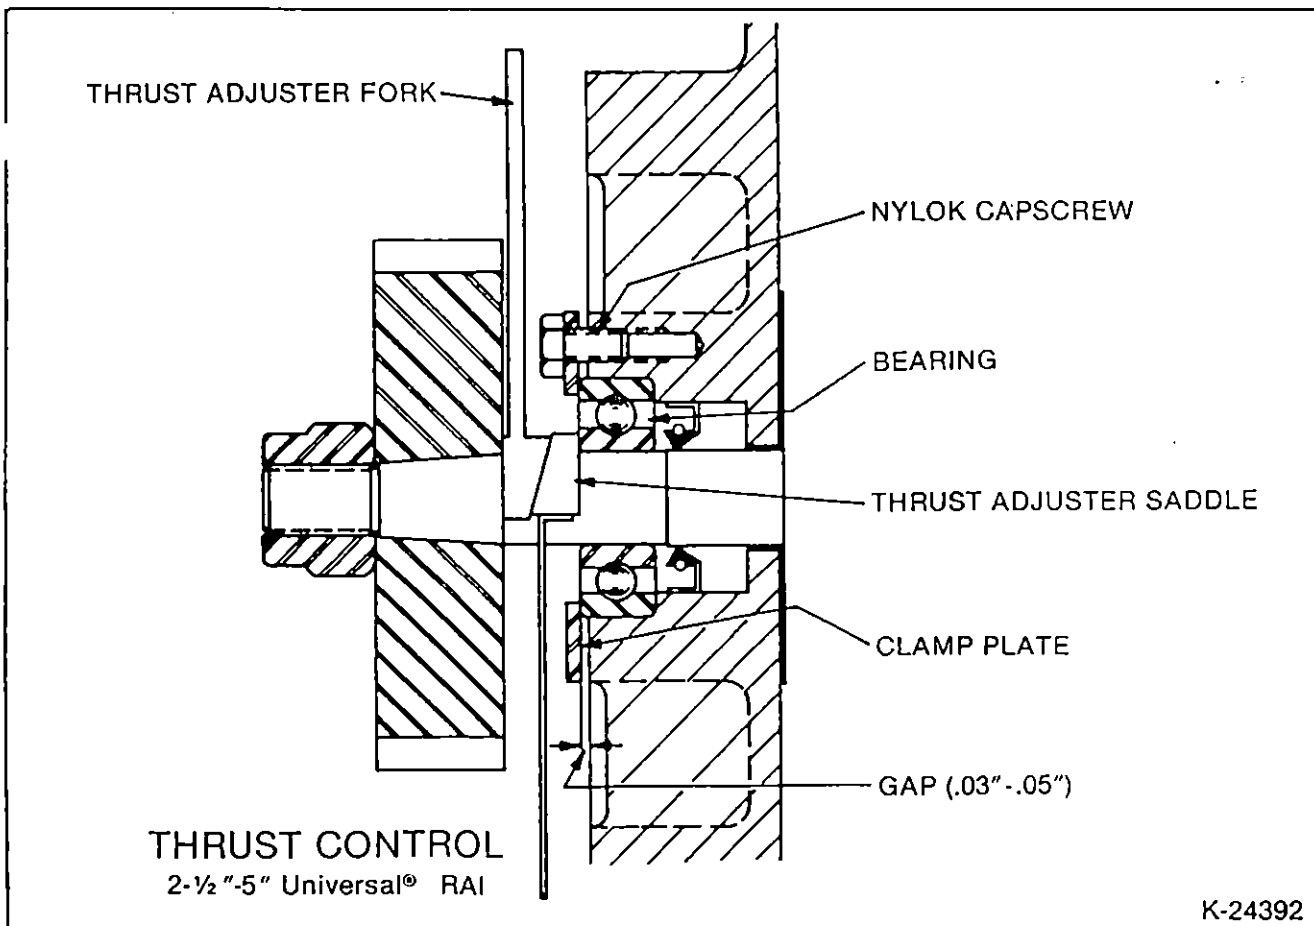
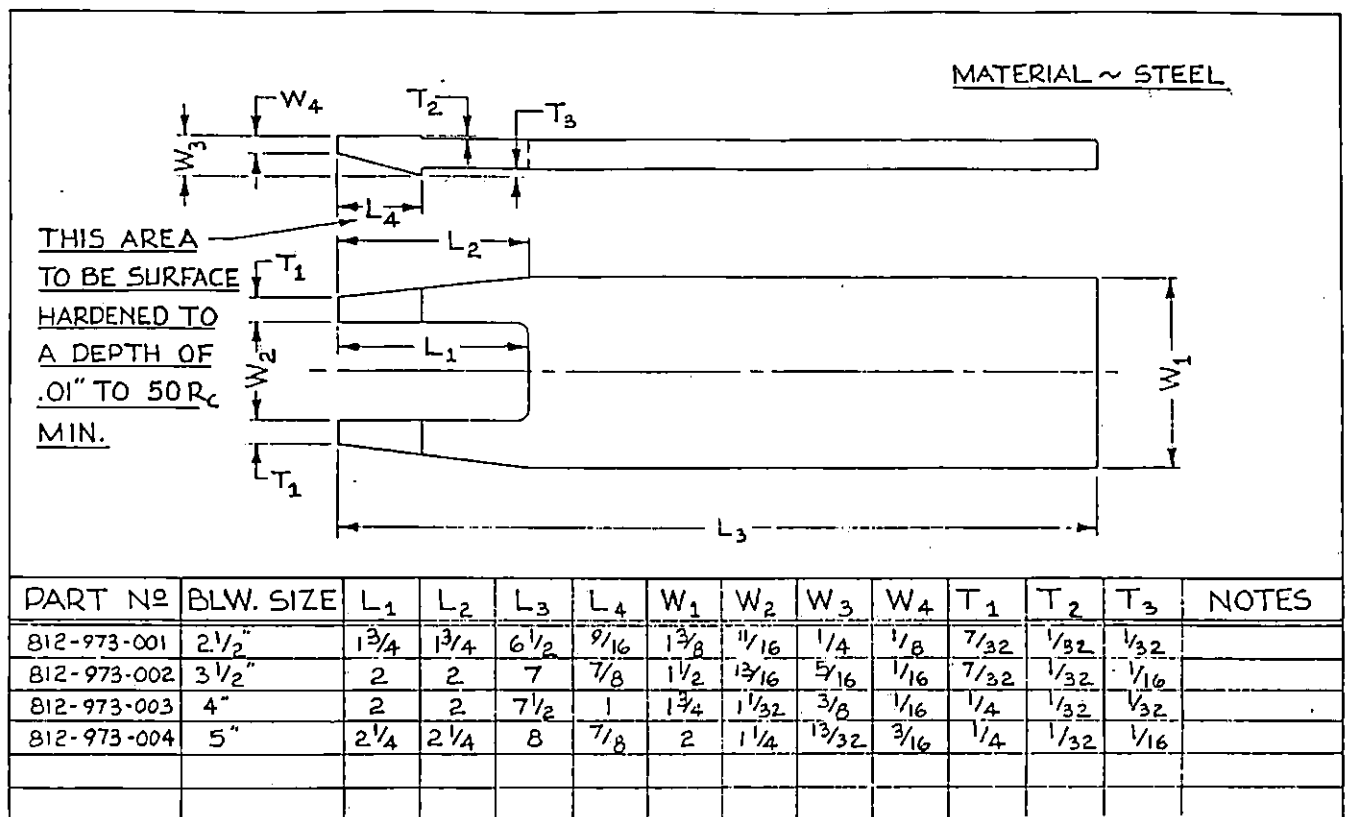

Figure 6 — Thrust Setting, 2 1/2"-5" UNIVERSAL RAI®
Figure 7 — Thrust Adjuster Fork
11. Place blower on its feet on a flat surface. Loosen feet capscrews (32) and square up unit. Re-tighten capscrews (32). Clamp unit down to a solid base for further assembly.
12. Oil the gear end bearing fits as described previously. Install 2½-5" UNIVERSAL RAI® gear end bearings flush with the headplate bearing shoulders using proper drivers. On 6" & 7" UNIVERSAL RAI®, install thrust washer (29) in bearing bores then install gear end bearings so that they protrude ⅛" (1.6mm) above headplate surface.
13. Install bearing clamp plates (34). On 6" & 7" UNIVERSAL RAI®, impeller end clearances are also to be set during this step. Install clamp plates (34) with capscrews (31) making sure that the gap between the clamp plates and the headplate is even all around, at the same time, set end clearances per Table 5.
14. Install gears and time impellers as in (A).
15. For setting end clearances on 2½-5" gear diameter units, special tools, thrust adjuster fork Fig. 7 and thrust adjuster saddle Figure 8 are required. Refer to Fig. 6 for installation of tools. The flat side of the saddle rests against the bearing inner race and the flat side of the fork rests against the back side of the gear. Install a shim, with thickness equal to gear end clearance (Table 6), between the impeller and the gear end headplates. Tap on top of the fork until the shim becomes snug. Remove the shim and check end clearances. To increase gear end clearance, tap on the end of the gear end shaft with